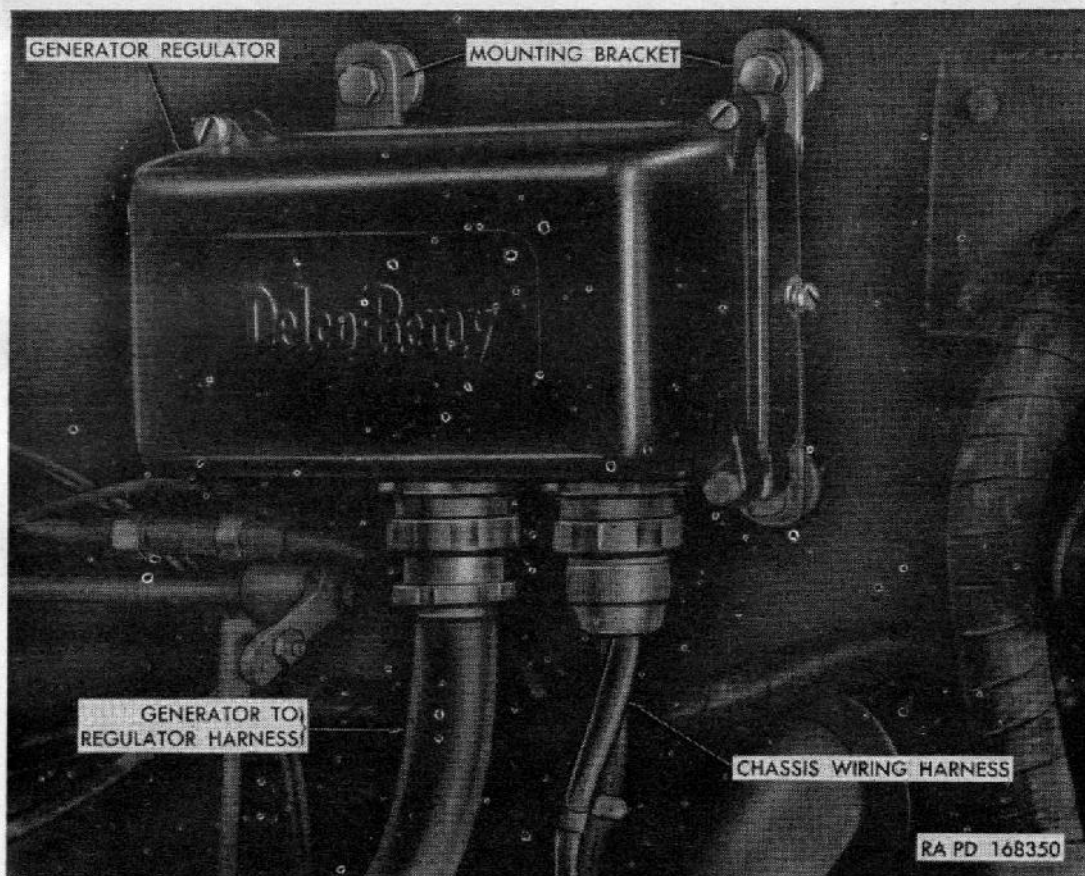
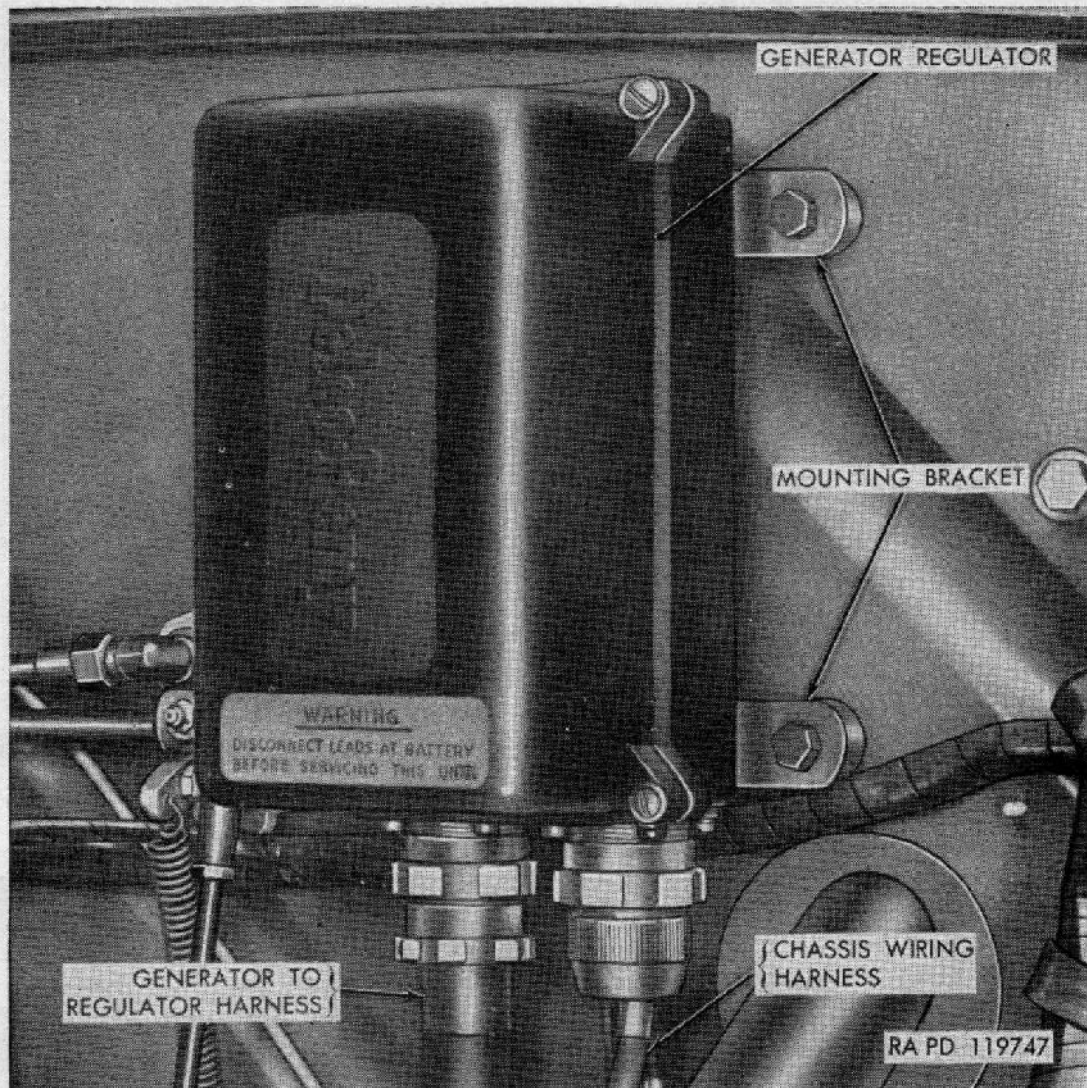

Figure 84. Generator regulator—M34 trucks, serial 90000-100609 and 101061-101077.
Figure 85. Generator regulator—all M36 and M47 trucks and M34 trucks—serial 100610-101060 and 101078 up.
- (4) *Generator regulator.* The watertight generator regulator contains three units, a voltage regulator, a current regulator, and a cut-out relay. The regulator is mounted in the rear of engine compartment on front side of dash panel near steering column. Two types of regulators have been used. Figure 84 shows regulator used on M34 trucks, serial numbers 90000-100609, and 101061-101077. Figure 85 shows regulator used on M34 trucks, serial numbers 100610-101060 and serial number 101078 up. It is also used on all model M36, M47, and M59 trucks.
(figs. 84 and 85)